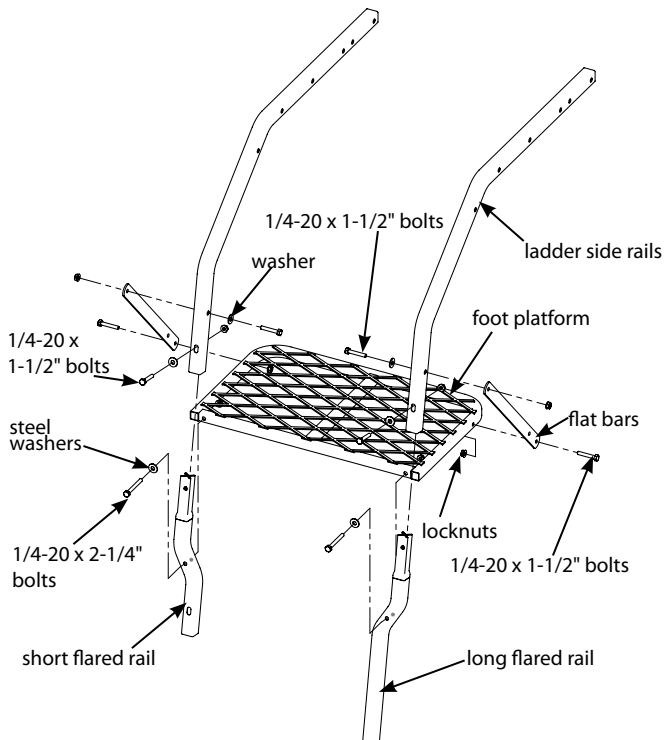

Figure 1
1. Attach the short flared rail (410031) and the long flared rail (410037) to the foot platform (410047) using (2) provided 1/4-20 x 2-1/4" bolts, locknuts and steel washers. **SEE FIGURE 1. DO NOT tighten all nut and bolt assemblies completely!**
NOTE: Mesh surface of foot platform should be on top. Make sure the short and long flared rails are orientated correctly per Figure 1.
2. Insert the two flared rails into the (2) ladder side rails (410030). Secure the ladder side rails to the flared rails using (2) provided 1/4-20 x 1-1/2" bolts, locknuts and steel washers. **SEE FIGURE 1.**
3. Attach the (2) foot platform flat bars (AL7) to the foot platform and the ladder side rails using (4) provided 1/4-20 x 1-1/2" bolts, locknuts and (2) steel washers. **SEE FIGURE 1.**